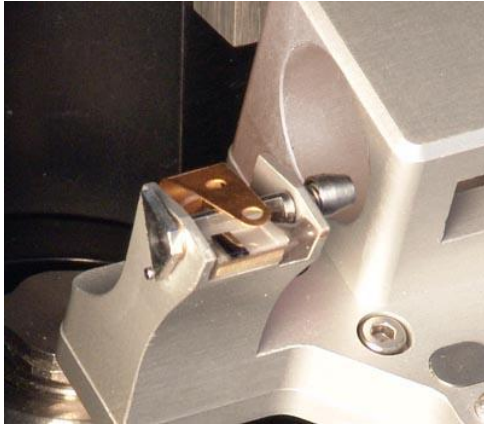
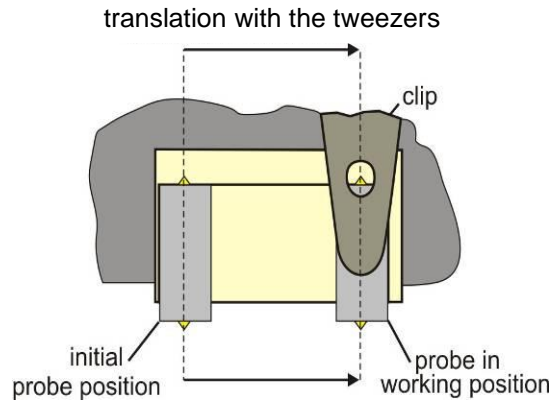
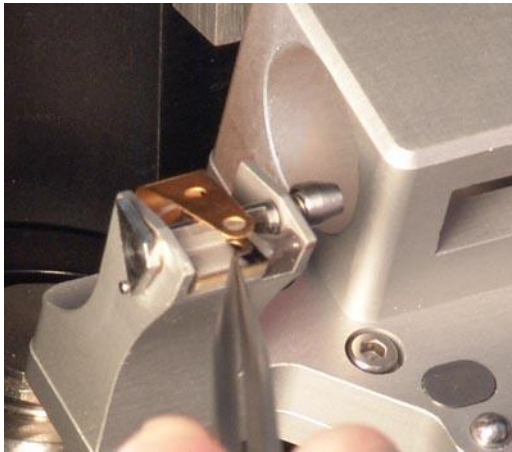
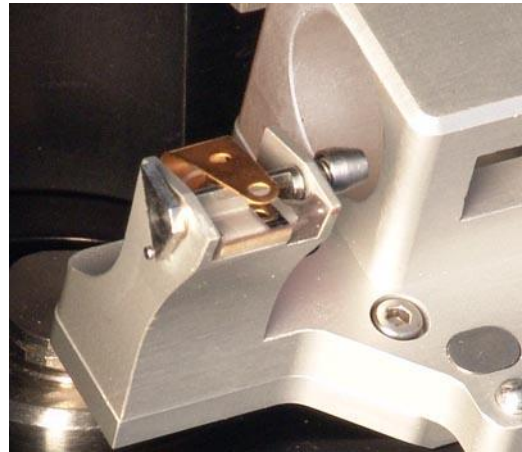

Fig. 6-16
Fig. 6-17
Fig. 6-18
Fig. 6-19
4. Place the probe on the sapphire pedestal to the left of the working position (see Fig. 6-16, Fig. 6-17) which is in the right corner under the clip.
5. Move the probe with the tweezers to the working position (see Fig. 6-18) as shown schematically in Fig. 6-17. The probe at its working position is shown in Fig. 6-19.